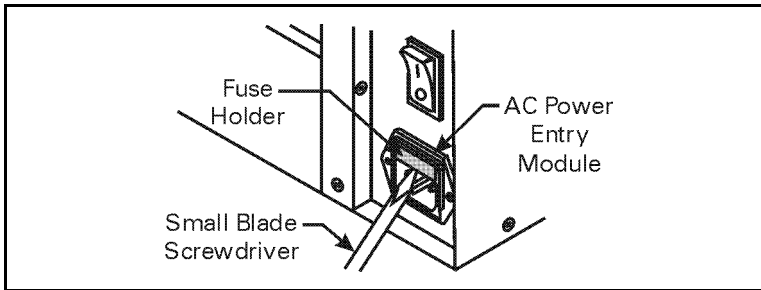

Figure 30
1. Turn off the printer power and unplug the power cord from the back of the printer. See Figure 30.